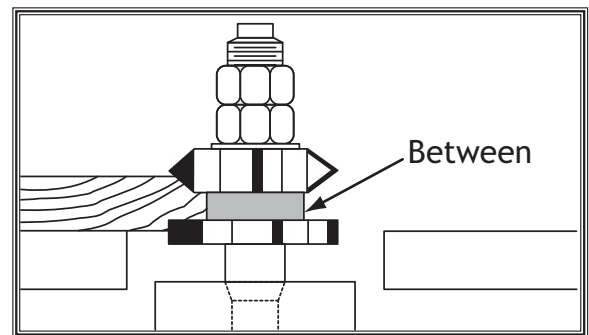

Figure 24. Rub collar mounted between two cutters.
- **BETWEEN TWO CUTTERS** as shown in **Figure 24**. This setup has the advantage of making two profile cuts in a single pass.